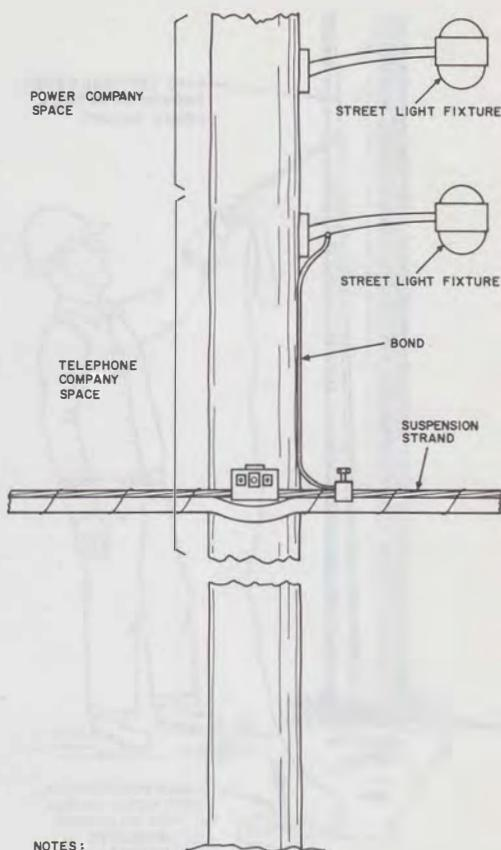

Fig. 9—Street Light Fixture—Conditions Not Requiring Use of B-Voltage Tester
6.06 Poles carrying street light fixtures may be worked on without making a voltage test under any one of the following conditions (Fig. 9):